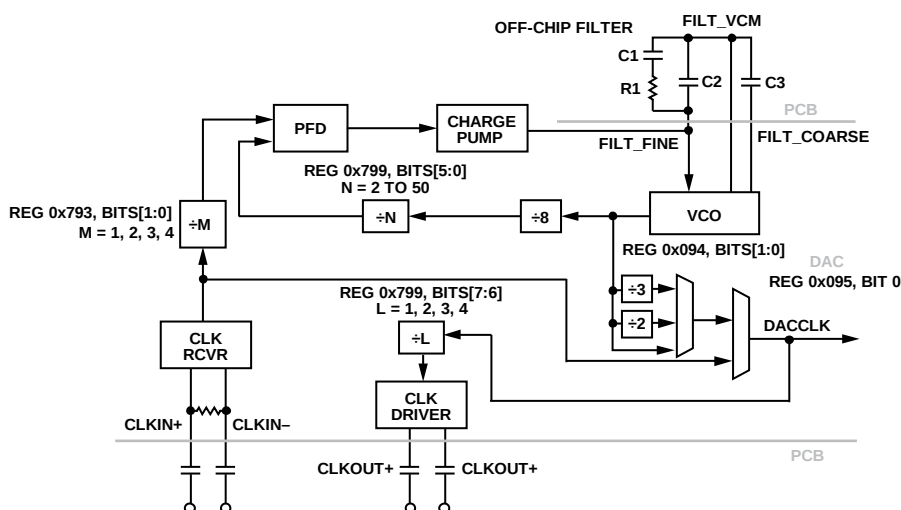

Figure 90. DAC PLL and Clock Path Block Diagram
The AD9176 includes an integer PLL/VCO block that allows generating a DAC clock (f_{DAC}) from an external reference frequency (f_{REF}) between 25 MHz and 3080 MHz, applied to the $\text{CLKIN}_{\pm}$ pins (see Figure 90). When using the on-chip PLL, select the predivider (M) via Register 0x793, Bits[1:0] to internally divide the reference frequency to be within the range of 25 MHz to 770 MHz of the phase frequency detector (PFD) circuitry block input. Enable the DAC PLL synthesizer by setting Register 0x095, Bit 0 to 0.
To generate the required VCO control voltage from the charge pump (CP) output, the AD9176 DAC PLL requires an external loop filter. The recommended filter is a passive low-pass filter of a topology similar to the one shown in Figure 90. Generally, the pass band width of the filter (bandwidth) trades off loop response time during a frequency change with loop stability after the initial frequency lock occurs. For proper filter layout and component selection, which results in optimal performance for most applications, refer to the documentation of the AD9176-FMC-EBZ evaluation board. The user may however customize the filter to fit a specific application, according to the PFD